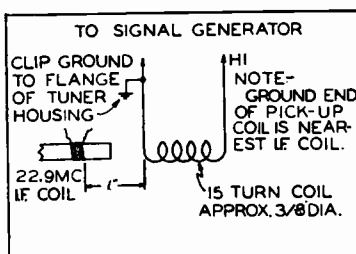

FIG. 4. Coupling Detail For IF Alignment
Connect the negative lead of a 3-volt battery at point (B) shown on the voltage chart or schematic diagram; connect the positive lead to the chassis. Couple the signal generator to the 1st IF grid coil (L-13A) as shown in Fig. 4. Set the receiver for channel 10 to avoid local oscillator effects.